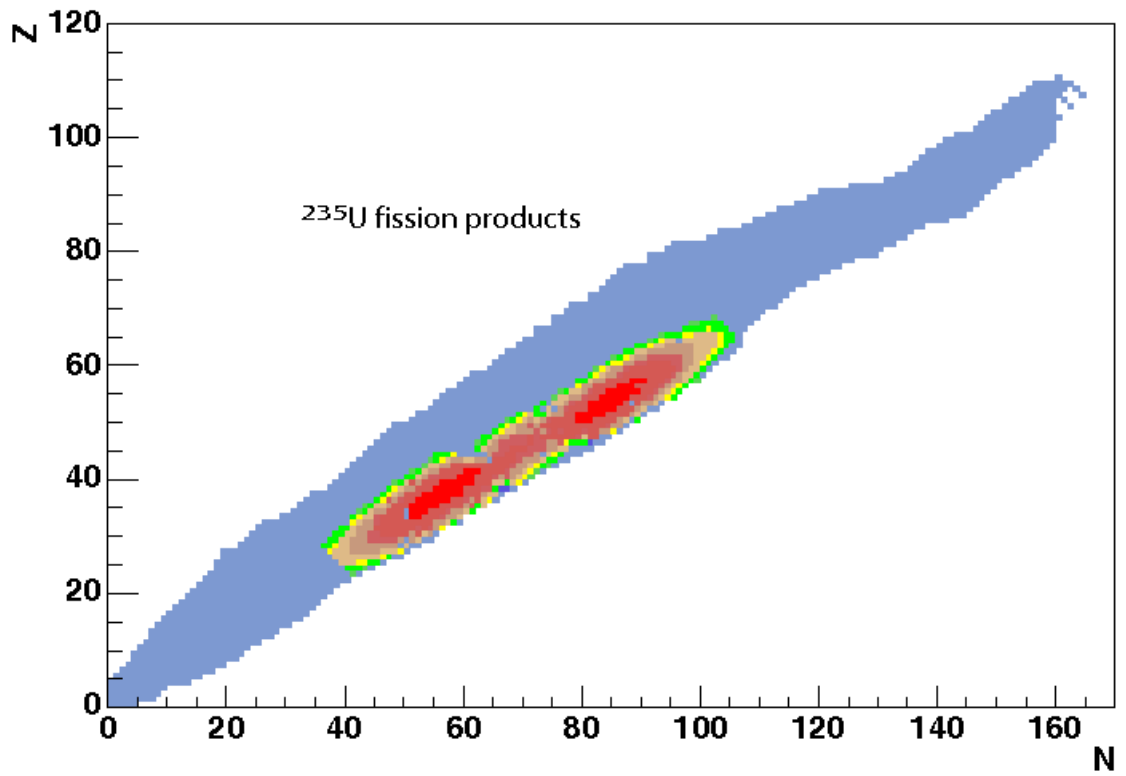

Figure 6.11: Fission yield for ^{235}U .
- *Fission:* Two files are needed for the inclusion of spontaneous fission decays and neutron induced fission reactions: *FPavailable.dat* and *FPyield.bin*, which have been built by `MURE/utils/jp/GenerateFPYield`. The first file is in ASCII format and contains the fission energies for each available ZAI, and the position (records) of the fission product yields in the binary file *FPyield.bin* (see for example Fig. 6.11 and 6.12). Even if these files are provided with *MURE*, you can regenerate them by providing the appropriate ENDF fission yield file.